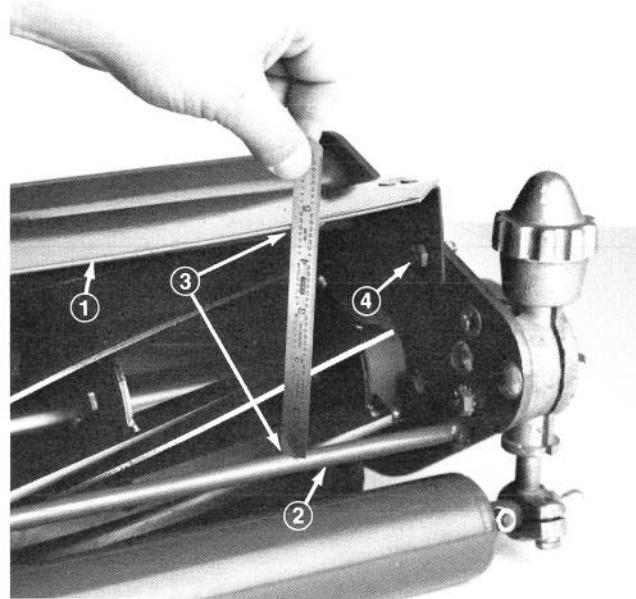

Figure 4
1. Set cutting unit in normal cutting position and measure distance from top of front crossbar to shield at each end of cutting unit (Fig. 4).
2. Height of shield from crossbar for normal cutting conditions should be 4 3/4 inches (12.1 cm). Loosen cap-screws and nuts securing shield to each side-plate, adjust shield to correct height and tighten fasteners (Fig. 4).